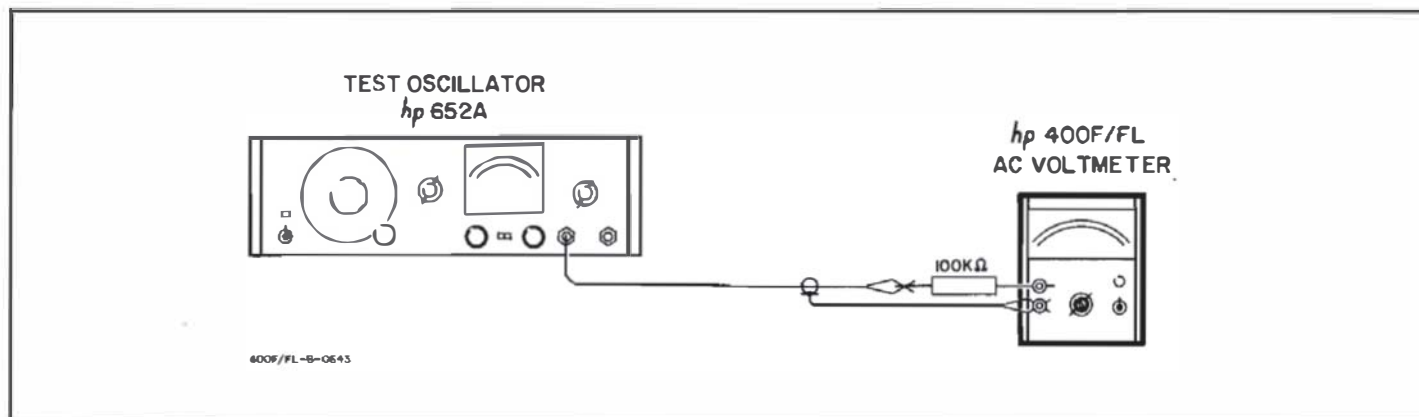

Figure 5-3. Input Impedance Check Setup
- d. Connect a 100 K  $\Omega$  resistor between test oscillator and 400F/FL as shown in Figure 5-3.
- a. Connect test oscillator and a 100 K  $\Omega$  resistor to 400F/FL as shown in Figure 5-3. Connect the resistor lead directly to the GR connector.